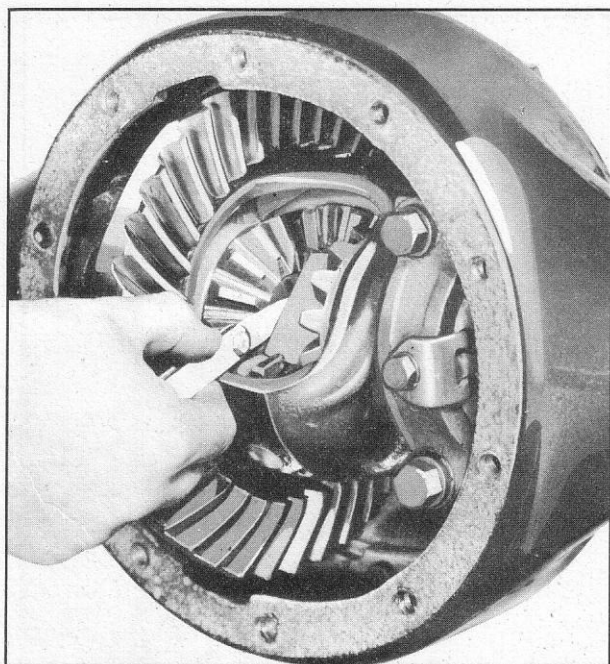

Fig. 14—Checking Axle Shaft and Spacer Clearance
4. Select axle shaft spacer to give free fit to .014" maximum clearance between ends of axle shaft and the spacer (fig. 14).